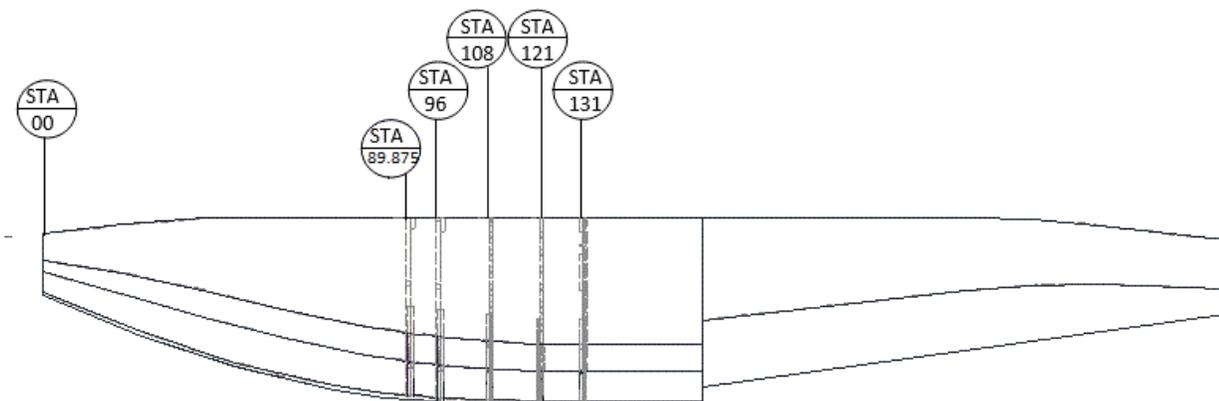

FIGURE 1: AFFECTED BULKHEAD FLOAT STATION LOCATIONS
Aircraft equipped with Wipline model 10000 amphibian floats that regularly operate in rough water, may experience cracking of the forward and aft lower bulkhead flanges located in the baggage area of the float as indicated in Figure 1. This service letter and associated kit reinforce the lower bulkhead flanges to reduce probability of cracking as a result of operations in rough water. Reinforced flanges for these bulkheads became standard production for float serial numbers 10269A and later.
- 1) Remove the top deck covers and open baggage hatches to gain access to the affected bulkheads shown in Figure 1. Remove baggage hatch floors to gain access to lower bulkhead flanges.
- 5) One doubler at a time; apply PR1422 sealant completely to mating faces of doubler, bulkhead, and bottom skin, then rivet appropriate doublers as called out in the Parts List and Figures 2-6 to the forward and aft lower bulkhead flanges and bottom skin using MS20470AD4 rivets, grip as required. Perform this operation at bow bulkheads indicated in Figure 1. Drive rivets while sealant is wet.